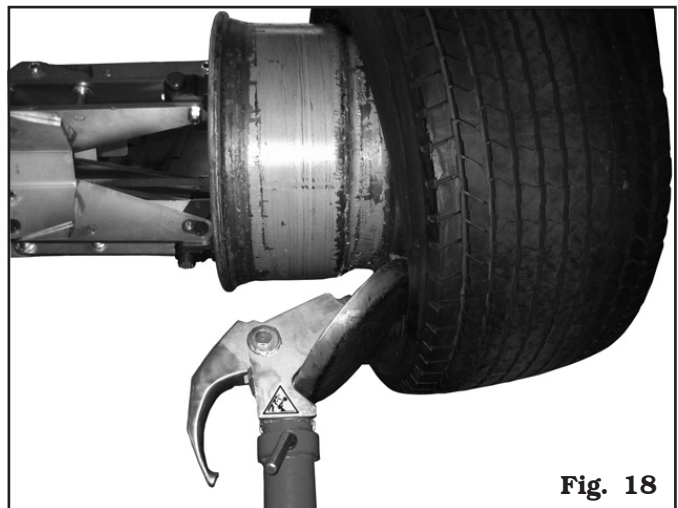

Fig. 18
A. If the wheel does not present particular problems, continuing beading operation will completely dislodge the beads from the rim. The inner bead, pushed by the disc, presses against the outer one till it has been completely removed (see **Fig. 18**).